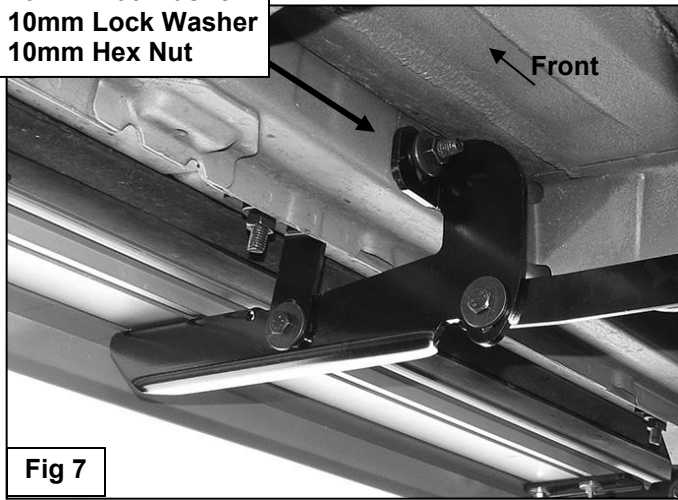

Fig 7
7. Select the passenger side Front Mounting Bracket. Attach the Bracket to the Bolt Plate in the back of the frame channel first with (1) 10mm Flat Washer, (1) 10mm Lock Washer and (1) 10mm Hex Nut, **(Step 6, Figure 7)**. Attach the Mounting Bracket to the back of the previously installed "L" Support Bracket with (1) 8mm x 30mm Hex Bolt, (2) 8mm Flat Washers, (1) 8mm Lock Washer and (1) 8mm Hex Nut, **(Figures 7 & 8)**. Do not tighten hardware at this time.